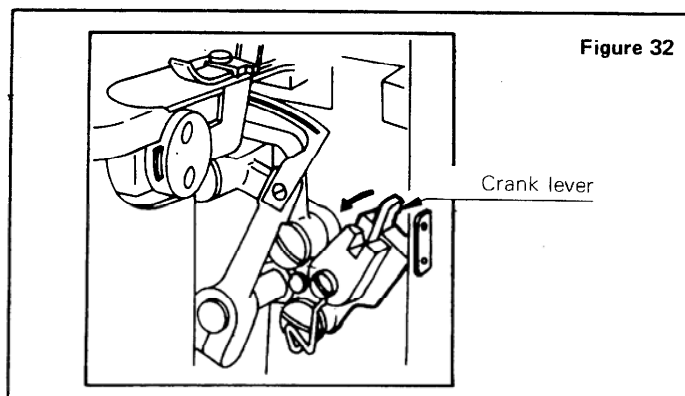

Figure 32
- (3) Rotate the machine pulley by hand and when the needle is at its lowest point, pull down and set the crank lever. Thus, the looper for overedging becomes operational. (Figure 32)